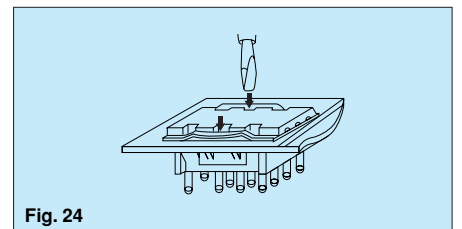

Fig. 24
• The socket should be pushed through the opening in the mounting panel until the projections on the side of the mounting bracket extend out over the back surface. (Fig. 24)